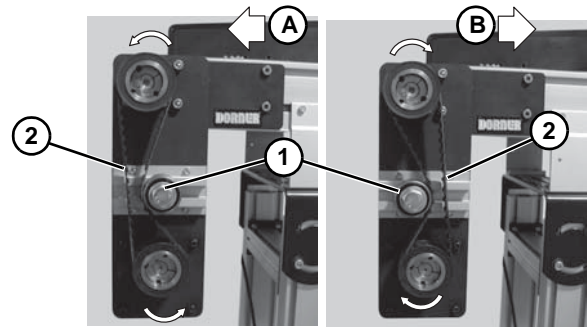

Figure 9
8. Depending on conveyor belt travel (direction A or B), locate timing belt tensioner (Figure 9, item 1) as shown. Tension timing belt to obtain 1/8" (3 mm) deflection for 6 lb (3 Kg) of force at timing belt mid-point (Figure 9, item 2). Tighten tensioner screw to 110 in-lb (12 Nm).
3. Depending on conveyor belt travel (direction A or B), locate timing belt tensioner (**Figure 9, item 1**) as shown. Tension timing belt to obtain 1/8" (3 mm) deflection for 6 lb (3 Kg) of force at timing belt mid-point (**Figure 9, item 2**). Tighten tensioner screw to 110 in-lb (12 Nm).
5. Depending on conveyor belt travel (direction A or B), locate timing belt tensioner (**Figure 9, item 1**) as shown. Tension timing belt to obtain 1/8" (3 mm) deflection for 6 lb (3 Kg) of force at timing belt mid-point (**Figure 9, item 2**). Tighten tensioner screw to 110 in-lb (12 Nm).